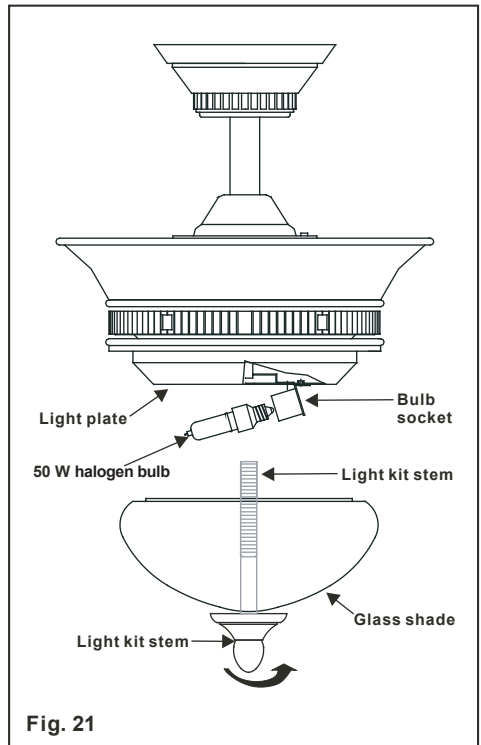

Fig. 21
Step 1. Install 2x50W halogen bulb by screwing it clockwise into bulb socket (Fig. 21).
Step 2. Raise the glass shade up against the light plate and secure it to the fan with the light kit stem. (Fig. 21)